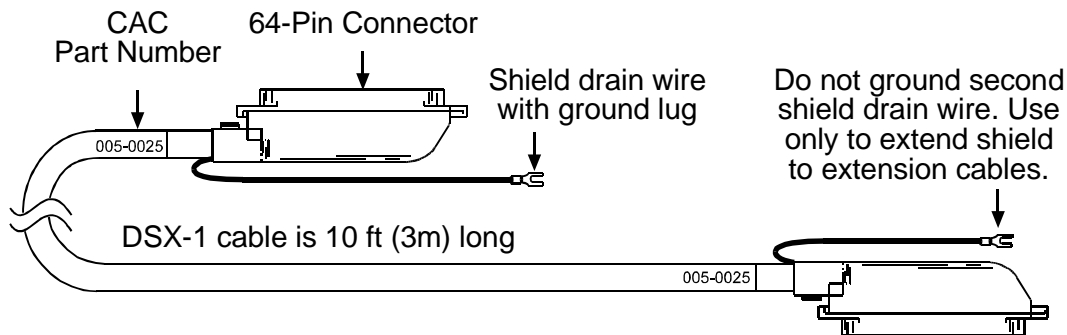

Figure 6-3. DSX-1 Cable with Two Connectors (PN 005-0025)
1. If DSX-1 cables, PN 005-0025 (10 ft.) or 005-0030 (25 ft.), have been ordered from Carrier Access Corporation, open packages containing cables (see Figure 6-3).